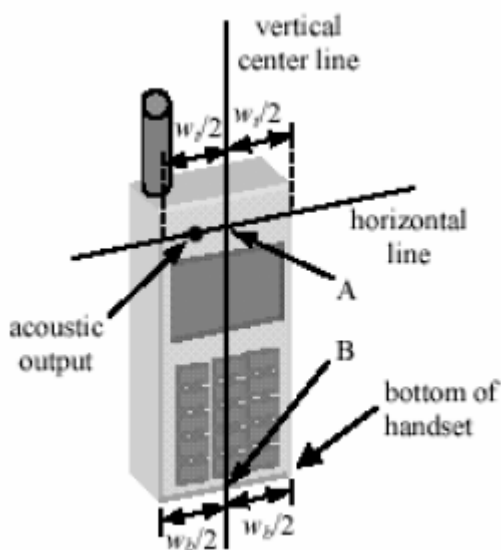
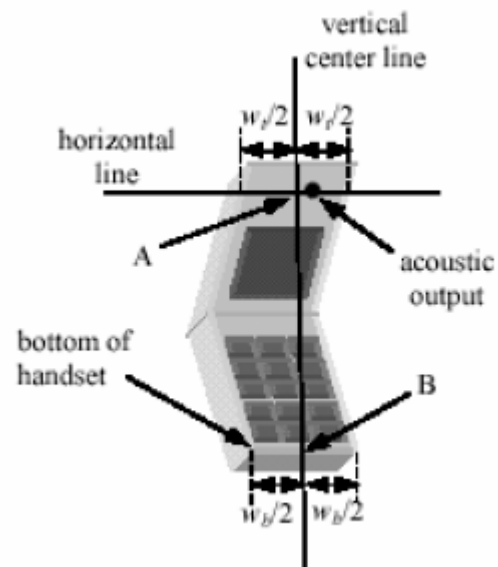

Figure 4.1a Fixed Case
Figure 4.1b Clam Shell
- b. Define two imaginary lines on the handset: the vertical centerline and the horizontal line. The vertical centerline passes through two points on the front side of the handset: the midpoint of the width  $w_t$  of the handset at the level of the acoustic output (point A on Figures 4.1a and 4.1b), and the midpoint of the width  $w_b$  of the bottom of the handset (point B). The horizontal line is perpendicular to the vertical centerline and passes through the center of the acoustic output (see Figure 4.1a). The two lines intersect at point A. Note that for many handsets, point A coincides with the center of the acoustic output. However, the acoustic output may be located elsewhere on the horizontal line. Also note that the vertical centerline is not necessarily parallel to the front face of the handset (see Figure 4.1b), especially for clamshell handsets, handsets with flip pieces,